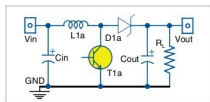

Fig. 2: Boost switching regulator circuit
In a boost converter (Fig. 2), energy is stored in the inductor (L1a) during the time the transistor (T1a) is 'on' (ton). When the transistor is turned off (toff), the energy is transferred in series with input Vin to the output filter capacitor (Cout) and load (RL). This configuration allows setting of the output voltage to any value greater than the input.